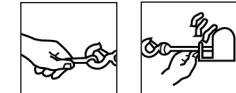

Fig. 4
**DANGER** Wear heavy leather gloves when handling rope. Do not let the rope slip through your hands, even with gloves on. When handling the hook, always use handsaver (Fig. 4). Never put your fingers into the hook. Placing finger(s) in hook could result in injury.